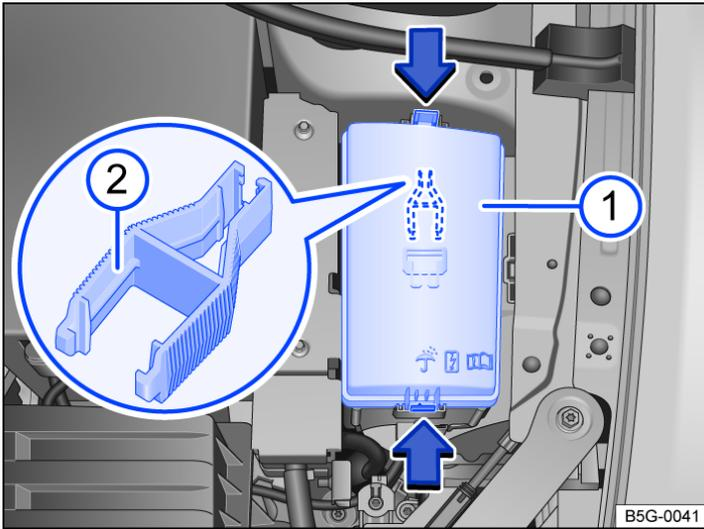

Fig. 1 In the engine compartment: fuse box.
- ① Fuse box cover.
- ② Plastic grippers for pulling out fuses.
In some vehicles, a pair of plastic pliers → Fig. 1 ② for removing fuses is located on the inside of the cover of the fuse box or on the fuse carrier.